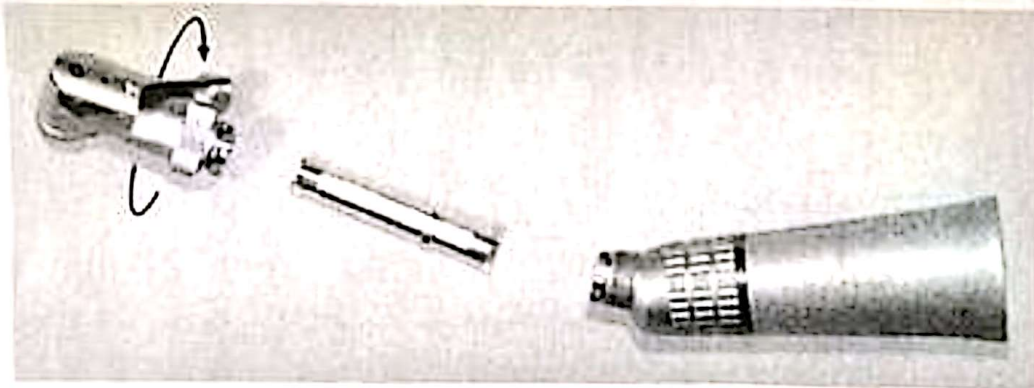

Fig. 3
- ① Loosen the union nut and remove the head from the sheath.
- ② Pull out the drive gear assembly from the head. (Fig. 3)